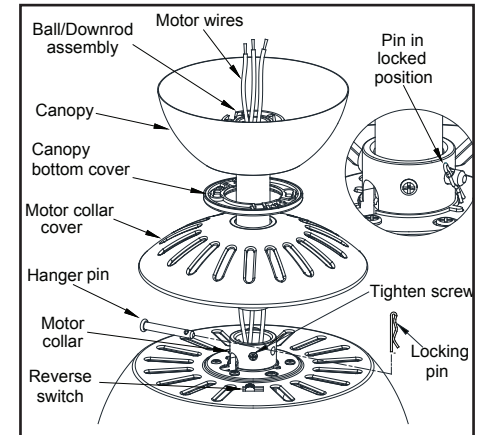

Figure 7
4. Route the wires exiting the top of the fan motor through the decorative motor collar cover then the center of the canopy bottom cover. Make sure the slot opening are on top. Route the wires through the canopy and then through the ball/downrod assembly. (Figure 7)
6. Align the holes at the bottom of the downrod with the holes in the collar on top of the motor housing. (Figure 7) Carefully insert the hanger pin against the wiring inside the downrod. Insert the locking pin through the hole near the end of the bolt until it snaps into its locked position, as noted in the circle inset of Figure 7.
The fan shipped from the factory with the reversing switch positioned to circulate air downward. If airflow is desired in the opposite direction, turn your fan off and wait for the blades to stop turning, then slide the reversing switch (located at the top of the motor housing, refer to figure 7 on page 4) to opposite position, and turn fan on again. The fan blades will turn in the opposite direction and reverse airflow.